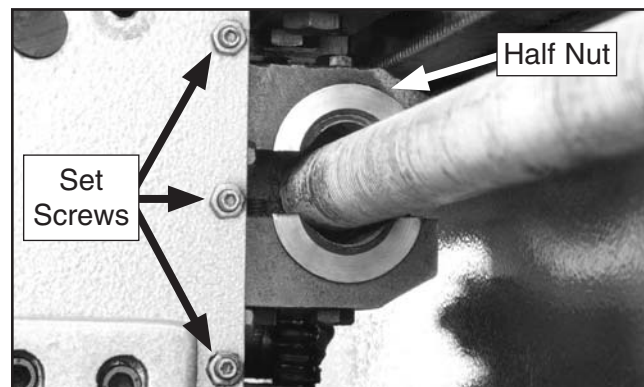

Figure 87. Half nut gib set screws.
4. Tighten each set screw (**Figure 87**) in approximately an $\frac{1}{8}$ of a turn, then retighten the hex nuts without moving the set screws.